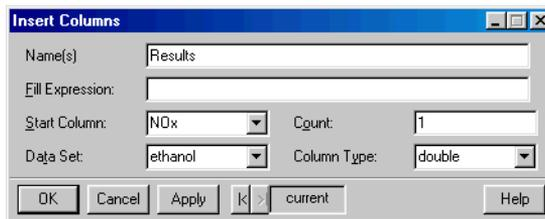

Figure 2.23: The *Insert Columns* dialog.
- From the main menu, choose **Insert ► Column**. The **Insert Columns** dialog opens, as shown in Figure 2.23.